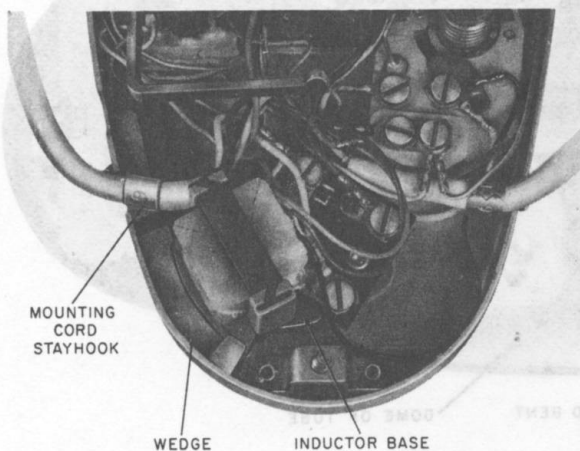

Fig. 8—Top View, Location of Wedge
- (4) Insert wedge in position (Fig. 8).
(5) Connect inductor between terminals B of network and 3 of terminal board.
(6) Replace mounting cord stay hook, dial, and housing.